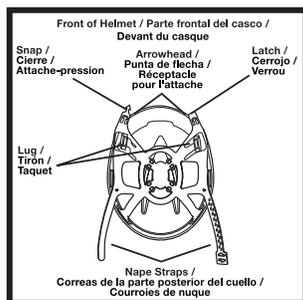

Figure 9
- Orient suspension assembly with nape strap toward back of helmet. **(See Figure 9)**